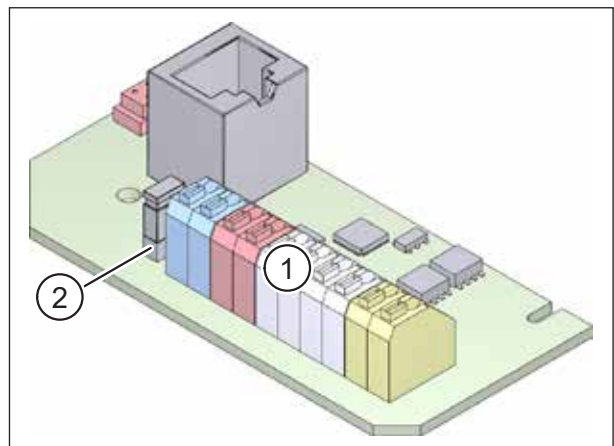

Fig. 21: Modbus board in the ventilation unit
The board has a 10-pole terminal block (item 1 in Fig. 21) for connecting the bus cable and the 3-pole pin header (item 2 in Fig. 21) for attaching the jumper. The jumper acts as a terminating resistor and must be set on the last ventilation unit.
The bus cable is connected at the connection on the Modbus master and on the 10-pole terminal block (see item 1 in Fig. 21 on page 37) on the board of the first ventilation unit. The bus cable then runs from here from one ventilation unit to the next (see section 15.5 on page 40).